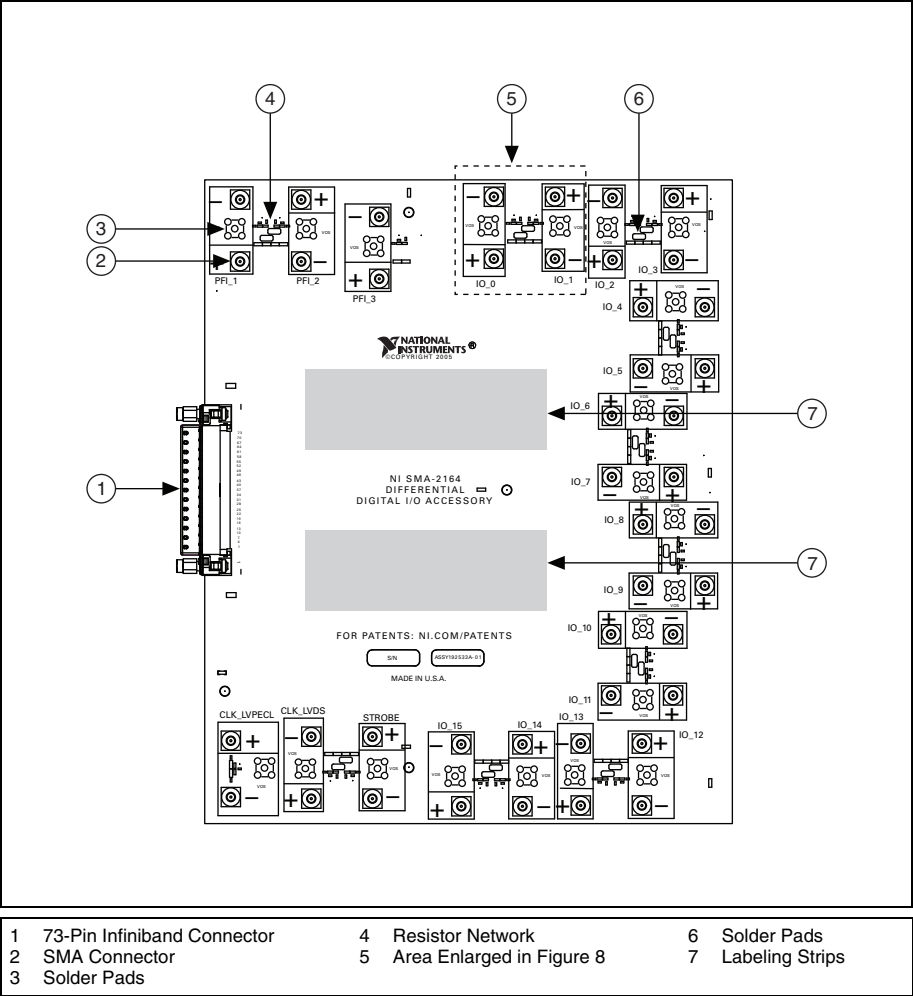
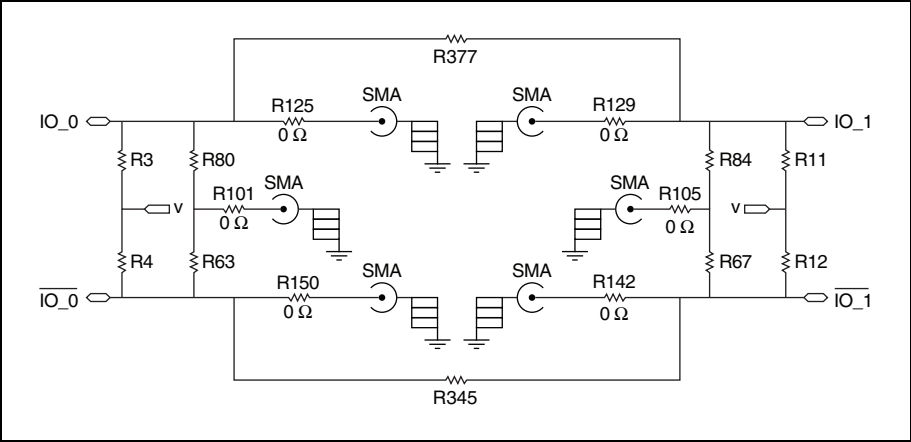
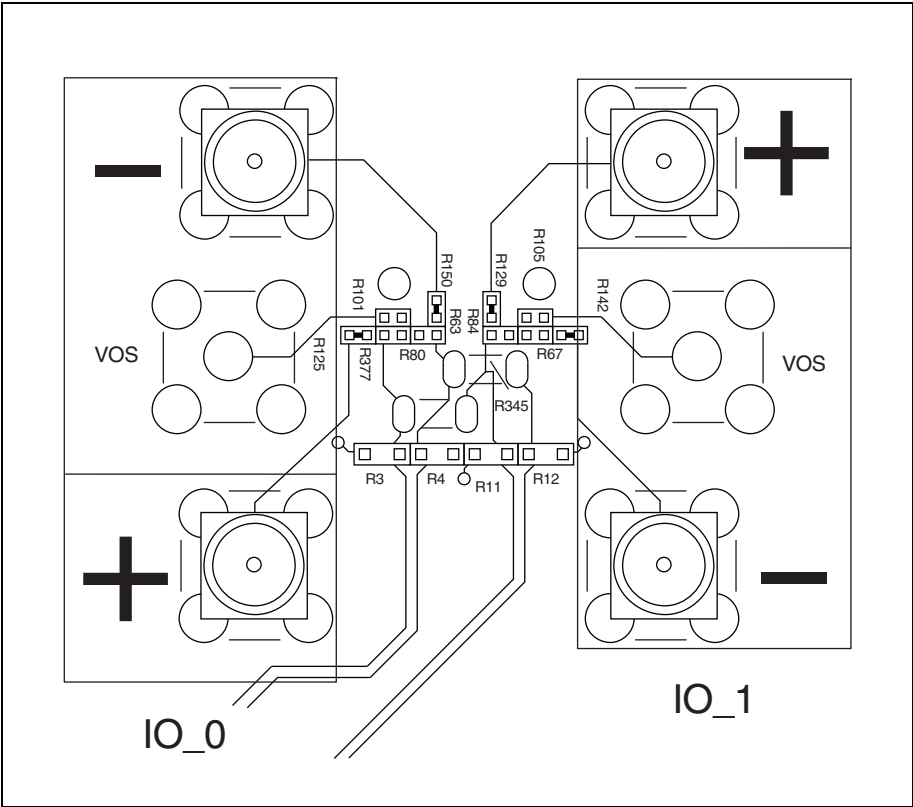

Figure 1. NI SMA-2164 Parts Locator Diagram
Figure 7. Symmetric Circuit
Figure 8. Solder Connection
Refer to Figure 1 to locate connectors and components on the NI SMA-2164.
Each signal pair is routed through a simple circuit to provide solder and probe access to the signals. Signal pairs are routed to a symmetric circuit, as shown in Figure 7.
Figure 8 is an enlarged portion of Figure 1. Figure 8 shows the routing of the signal pairs and the placement of the resistors shown in Figure 7.
Note This figure shows channels IO_0 and IO_1 on the NI SMA-2164. This circuit is copied on the NI SMA-2164/2165 on each pair of channels, though the reference designators vary. Figure 7 is the schematic representation of the PCB shown in Figure 8.
Termination of high-speed digital signals is necessary to prevent signal reflections and force signal channels to a known state when no signal is present. Pads for terminating resistors are connected to all DIO and control channels on the NI SMA-2164/2165. These pads are labeled in Figures 1 and 2 and are shown in more detail in Figure 8.
If your signal transmission line ends on the NI SMA-2164/2165, you can use the provided resistor pads to solder termination resistors. If your signal terminates somewhere other than the NI SMA-2164/2165, NI recommends terminating the transmission line at the final signal destination. Each signal pair is routed through a symmetric circuit, shown in Figure 7.
Unpopulated resistors like R80, R63, R67, and R84 in Figure 8 can be populated with 0402-sized resistors to provide termination. It is recommended that these resistors are each populated with 50 Ω resistors to provide the expected 100 Ω of differential termination.
The prototyping area is labeled in Figure 1. Also labeled in that diagram are the erasable labeling strips for your notes as you use the prototyping area.
Each signal pair is routed to a simple debug and prototyping circuitry illustrated in Figure 7.
- Channel-to-channel connectivity—If it is required that two channels be connected to one another (for round-trip delay elimination for example), you can connect neighboring channels by populating a size 1206 0 jumper on resistor locations R345 and R377 in Figure 8. By populating these resistors, IO_0 connects to IO_1, IO_2 connects to IO_3, and so on, and CLKOUT_LVDS connects to STROBE.